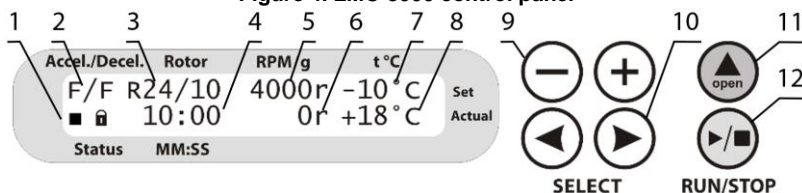

Figure 5. LMC-4200R control panel
- Set chamber temperature, in degrees Celsius (only **LMC-4200R**, fig. 5/7);
- Actual chamber temperature, in degrees Celsius (only **LMC-4200R**, fig. 5/8).
- 5.4.5. Chamber temperature (fig. 5/7, only for **LMC-4200R**). Select the chamber temperature, step 1 °C. Cooling starts independently from centrifugation.